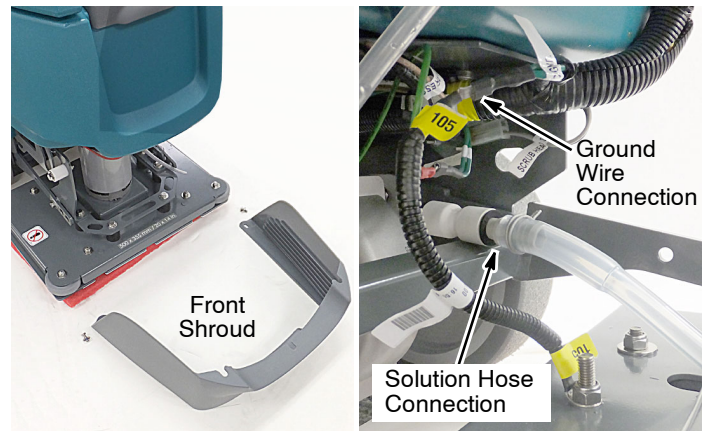

Fig. 17
1. Remove the front shroud from the machine. Disconnect the ground wire, brush motor connector and solution hose connection from the scrub head (Figure 17).